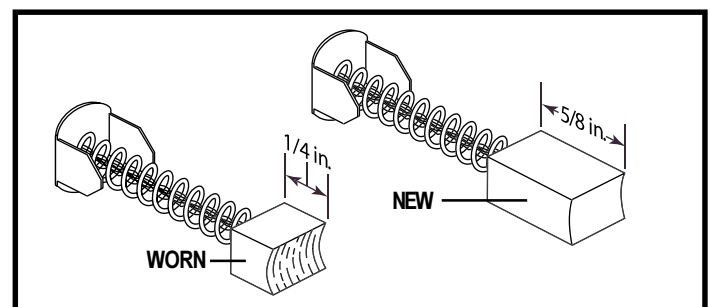

Figure 24. Motor Brushes
9. Inspect for wear. See figure 24. If there is less than 1/4 in. of brush remaining, replace the brushes. Contact your Quantum Rehab Specialist for replacement brushes.